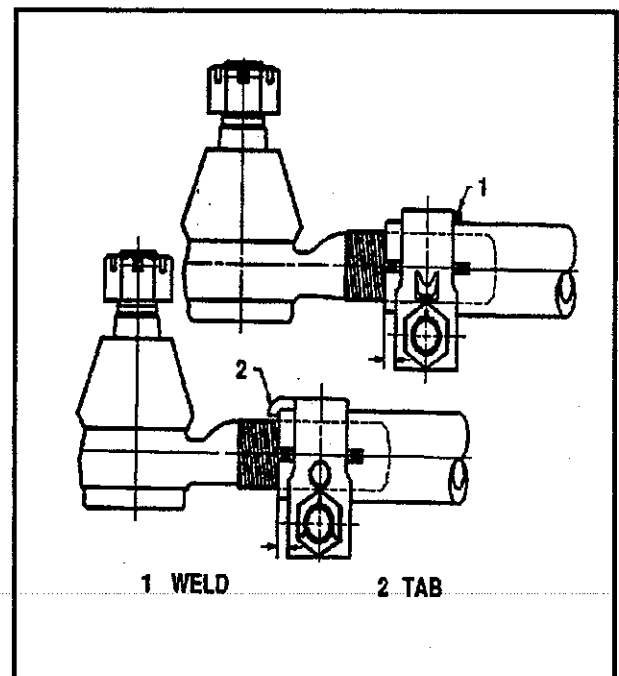

Figure 23—Types of Tie Rod Clamps
6. When tie rod ends are replaced or toe in is adjusted, both ends must be threaded into the tie rod tube far enough to completely cover the slots in the tube. (See Figure 23—Types of Tie rod Clamps.)